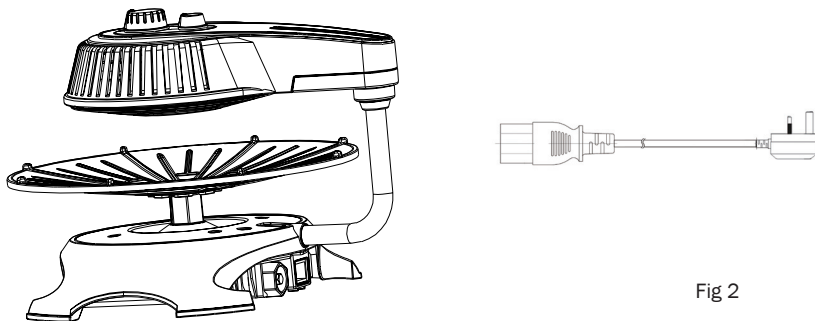

Fig 2
2. Insert the cord with the coupler into the socket behind the appliance and insert the power plug into a fixed power socket. (Note: the voltage of the socket must corresponds with that shown on the rating plate). (As shown in Fig 2).